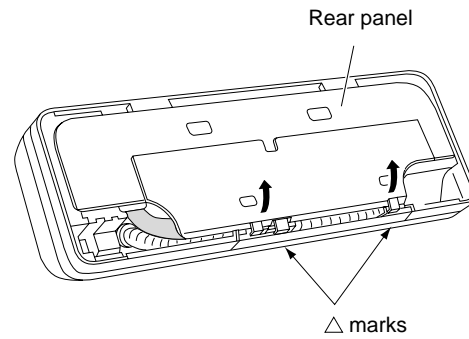

Fig. 6a
- (2) Press the 2 △ marks on the frame cover and disengage the stationary tabs from the frame. (Fig. 6a)
- (3) Remove the rear panel.
Tubing can be extended in 5 directions as shown in Fig. 6a. Select the direction you need providing the shortest run to the outside unit.